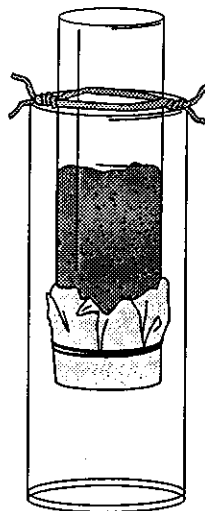

Figure 2.
2. Use the twist ties to suspend these new, dry columns and the water-saturated columns from the previous day in plastic vials. The cheesecloth should be about an inch above the bottom of the vial (Figure 2).